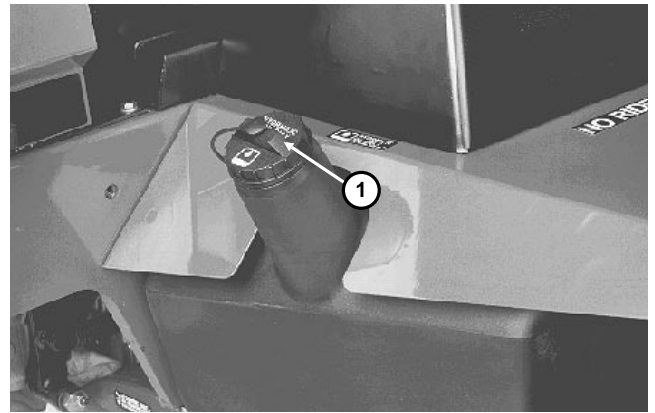

Figure 101
2. Put drain pan under reservoir (Fig. 101). Remove drain plug from bottom of reservoir and let oil drain into pan. Install drain plug.